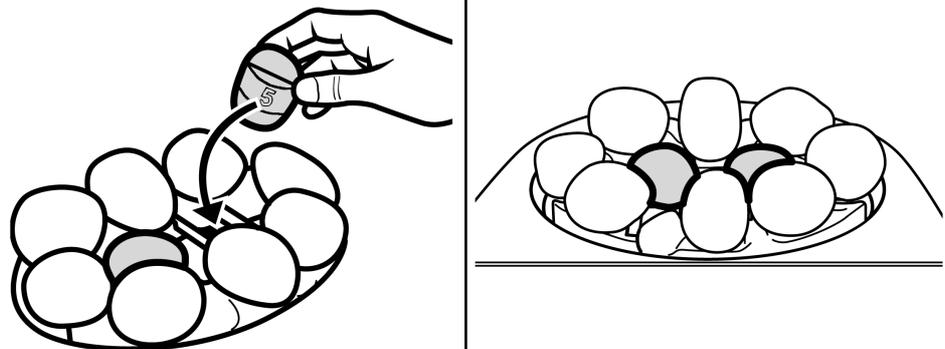

Figure 37 Pebble number '5' Location
8. There are two pebbles numbered '5'. They have a central location peg on the underside. Locate the first pebble '5' centrally between the left hand ceramic support rods (See figure 37). Locate the second pebble '5' centrally between the right hand ceramic support rods (See figure 37)